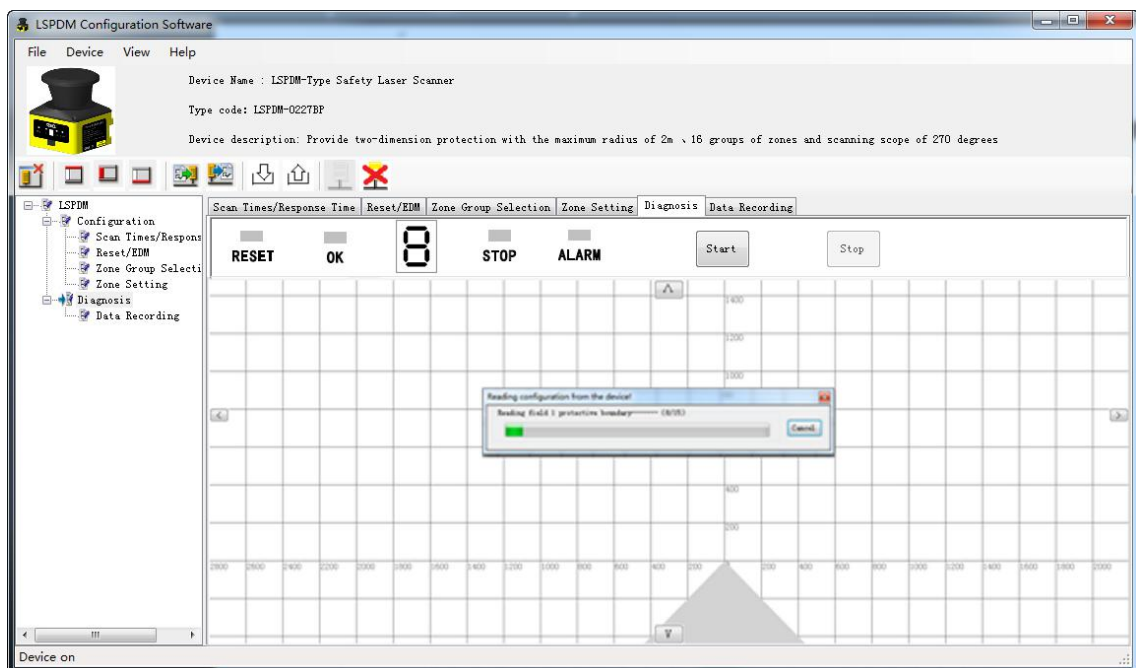

Fig.3.4.2 Reading configuration information
3) Click the [Start] button to start reading the internal configuration information of connecting LSPDM, and the pop-up window is as shown in Fig. 3.4.2.